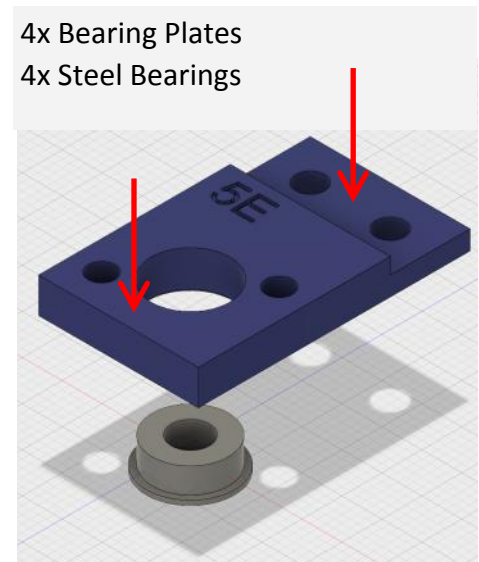

Figure 5
STEP #3— Insert the bearings into the bearing plate by placing the bearing on a hard surface as shown in Figure 5 to the right. Press the bearing plate down on top of the bearing while keeping the bearing plate level to the hard surface. Repeat this four (4) times.